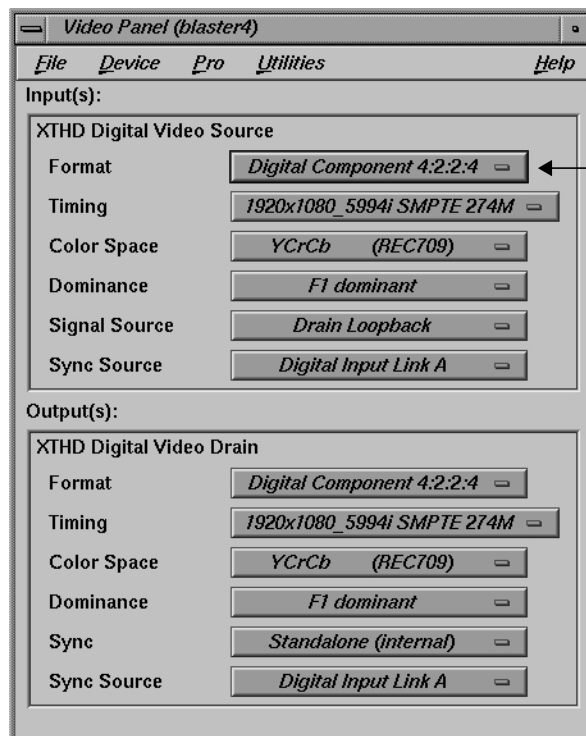

Figure B-3 Selecting Digital Input Video Format in *vcp*
4. In the Inputs(s): HD I/O Digital Video Source section of the control panel *vcp* (pointed out in Figure B-3) for the channel(s) you are using, select the format that matches your equipment: Digital Component 4:2:2:4 (the default) or Digital Component 4:4:4:4.